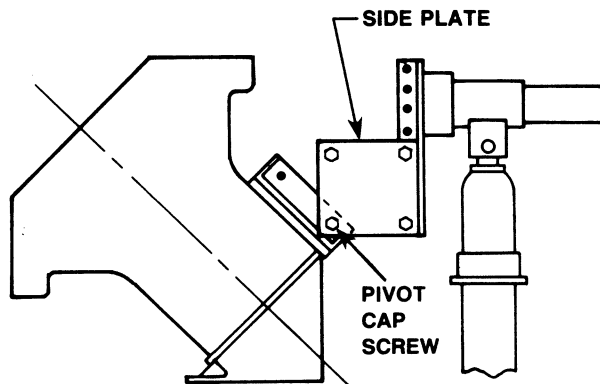

Fig. 1
2. Attach the Mounting Plate to the side plate of the 1750 Diesel Engine Repair Stand as shown in Figure 1.